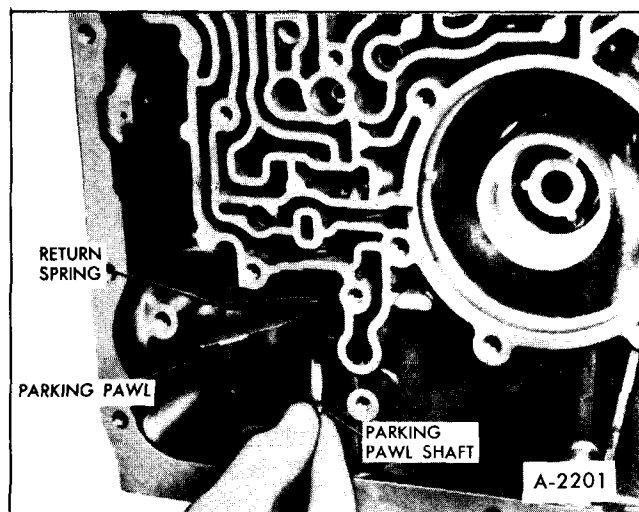

Figure 84—Installing Parking Pawl
1. Install parking pawl (tooth toward inside of case), pawl return spring and parking pawl shaft into case, Figure 84.